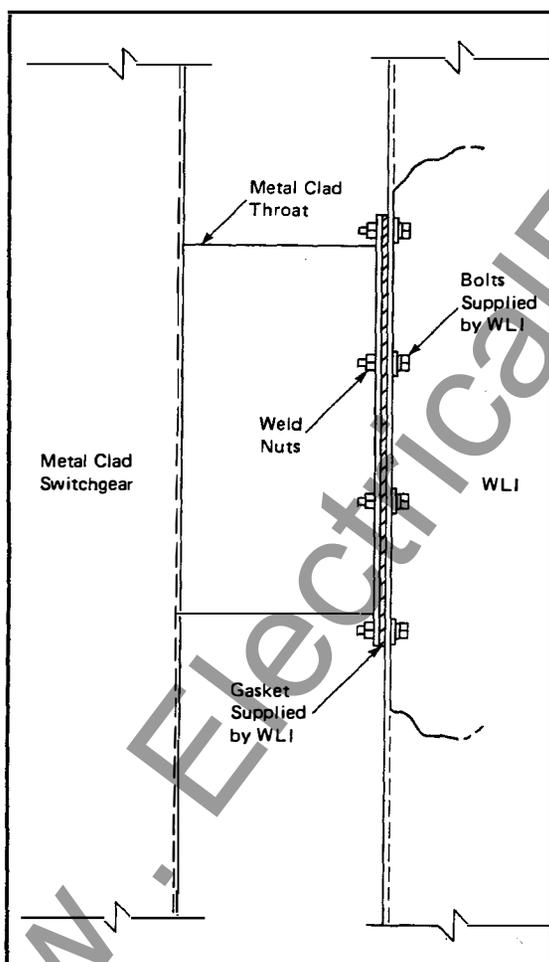

Fig. 6 Connection to Metal Clad Switchgear Lineup - Outdoor Unit
3.4.2 Outdoor Switchgear (See Fig. 6)